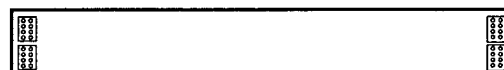

Fig. 1-5
- Flexible Cable (Part Number: YWV0EA0295AN 1 piece) for between System Control Board and Digital Process Board as shown in Fig. 1-5.